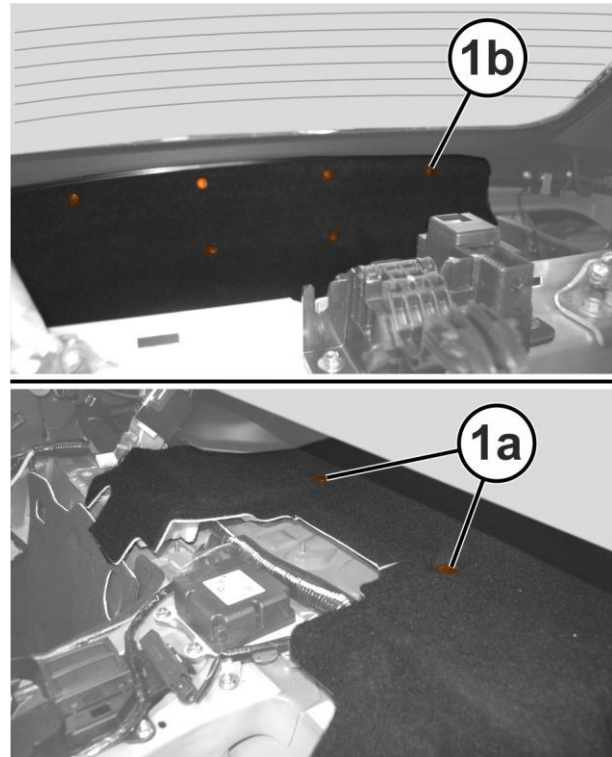

Figure 18 – Compartment Carpet
40. Remove the lower fasteners (1a) and upper fasteners (1b) securing the convertible top compartment carpet (Figure 18).
19. Secure the convertible top compartment carpet with lower fasteners (1a) and upper fasteners (1b) (Figure 18).